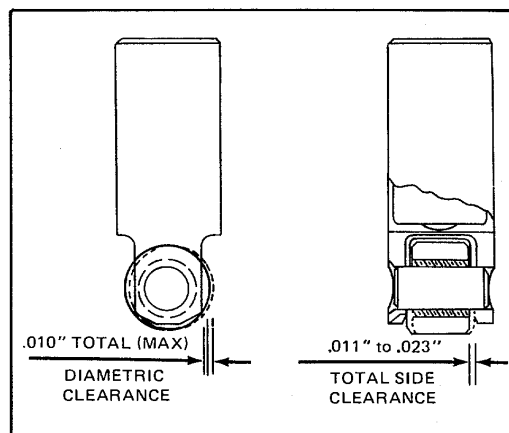

Figure 4. Cam Roller Clearances
Examine the cam follower rollers for scoring, pitting, or flat spots. The rollers must turn freely on their pins. Measure the total diametric clearance and side clearance. Install a new roller and pin if the clearances exceed those specified in Fig. 4. Cam followers stamped with the letter S on the pin, roller, and follower body are equipped with an oversized pin and roller. The same clearances apply to either a standard or oversized cam follower assembly.
7. Remove the cam follower from the fixture and check the side clearance (Fig. 4). The clearance must be 0.011 to 0.023 inch.